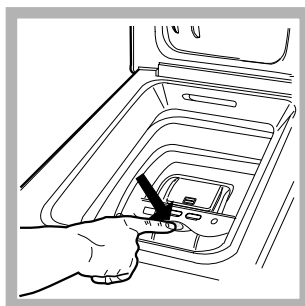

Fig. 2
With one finger, push the button indicated in fig. 2 and the drum will open delicately.
E) Drum End Stop (Fig. 2).